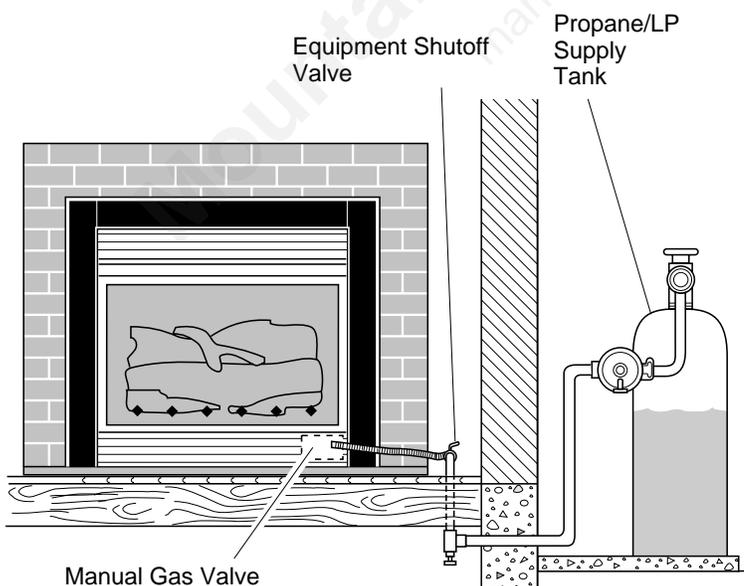

Figure 22 - Checking Gas Joints
3. Check all joints from propane/LP supply to equipment shutoff valve (see Figure 22). Apply mixture of liquid soap and water to gas joints. Bubbles forming show a leak.
4. Check all joints from equipment shutoff valve to thermostat gas valve (see Figure 22). Apply mixture of liquid soap and water to gas joints. Bubbles forming show a leak.